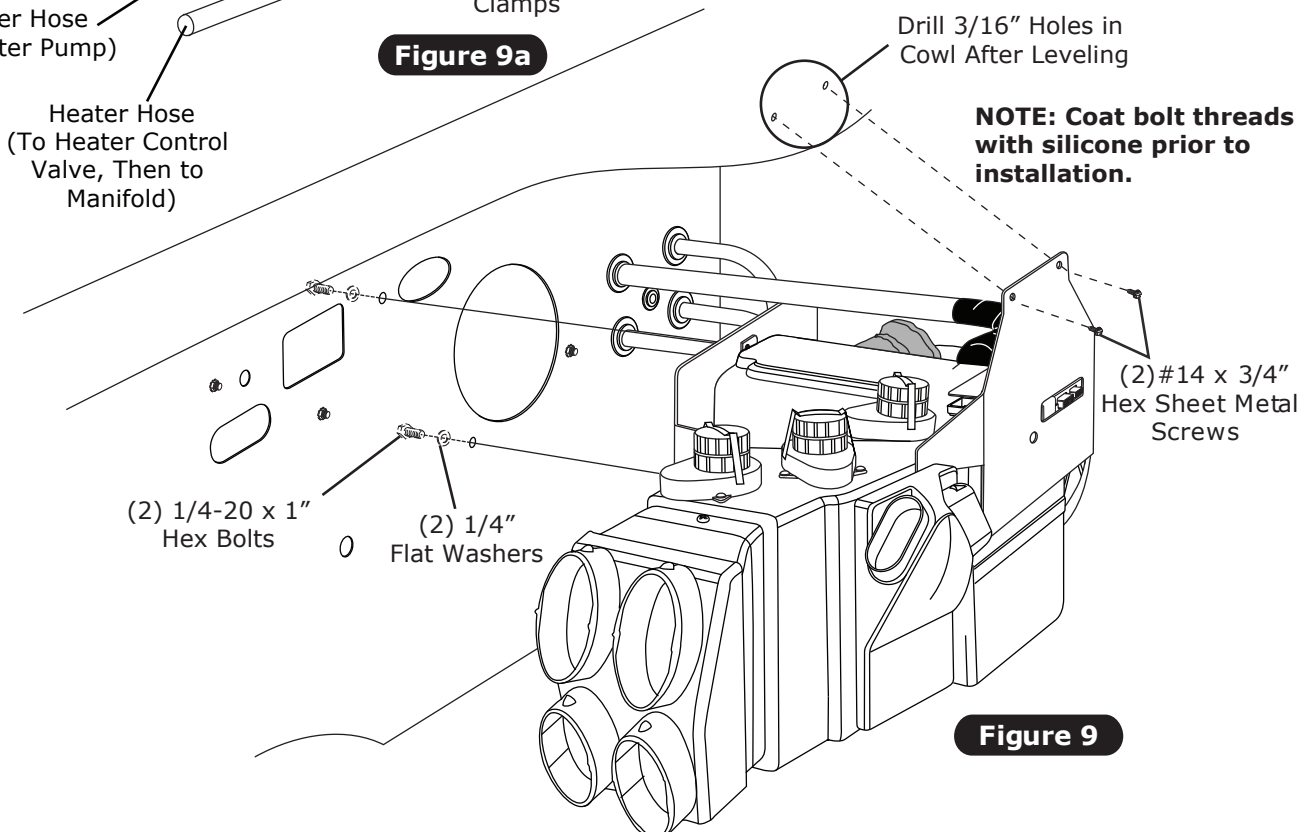

Figure 9
2. Lift evaporator unit up under the dashboard. Secure loosely to firewall using (2) 1/4-20 x 1" hex bolts and flat washers (See Figure 9, below). **NOTE: To ensure proper drainage, it is very important that the evaporator is level, both left-right and fore-aft. Check for level on the flat portions of the case around the drain.**
3. Using front evaporator bracket as a guide, mark and drill (2) 3/16" holes in cowl (See Figure 9, below).
4. Using (2) #14 x 3/4" hex sheet metal screws, secure the front evaporator mounting bracket to the cowl (See Figure 9, below).